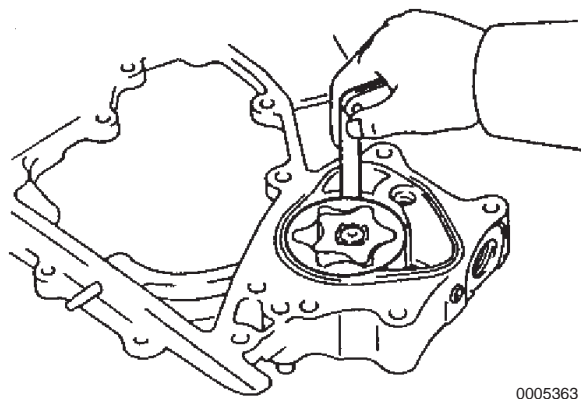

Figure 8-11
6. Check the clearance of the rotor body by measuring the clearance between the driven rotor and rotor body using a feeler gauge (**Figure 8-11**). If the measured clearance exceeds the specified maximum, replace the oil pump assembly.